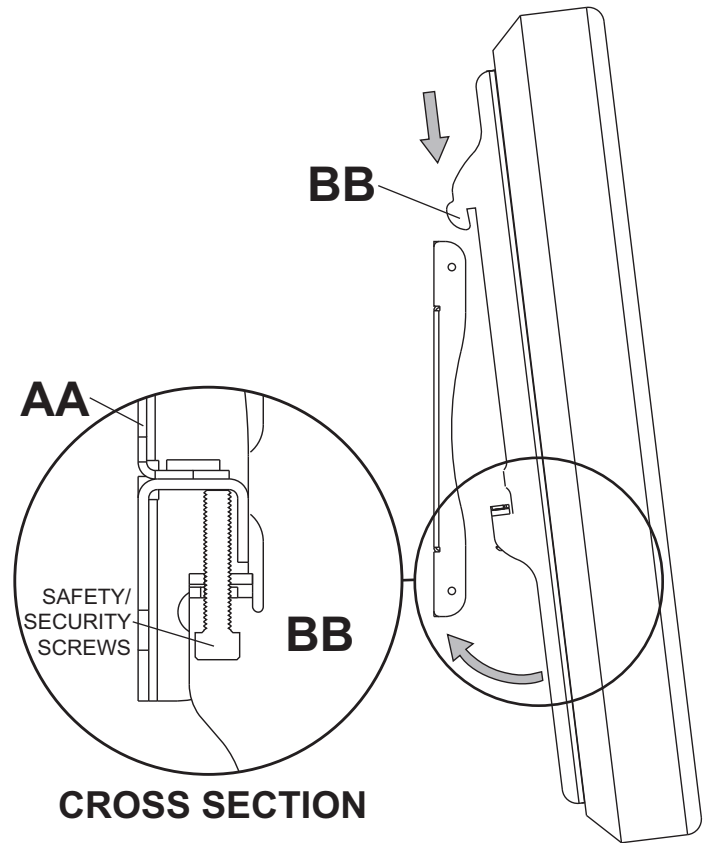

fig 3.1
- 3** Hook adapter brackets (**BB**) onto wall plate (**AA**). Then slowly swing display in as shown. Turn safety/security screws, using security allen wrench (**FF**), clockwise at least six times to prevent display from being removed as shown in cross section of fig. 3.1. Display can be adjusted horizontally if desired as shown in figure 3.2.